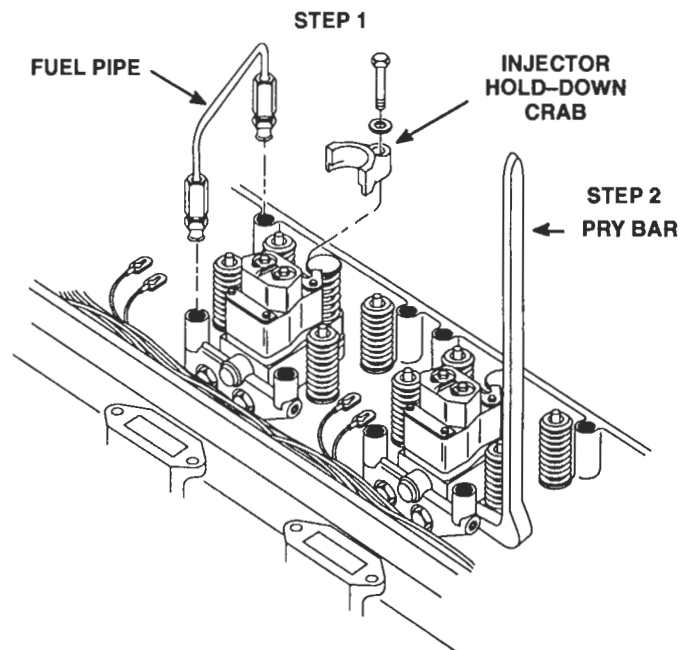

Figure 3. Removing EUI
5. Lift the injector from its seat in the cylinder head by inserting a pry bar under the injector body as shown in Figure 3.